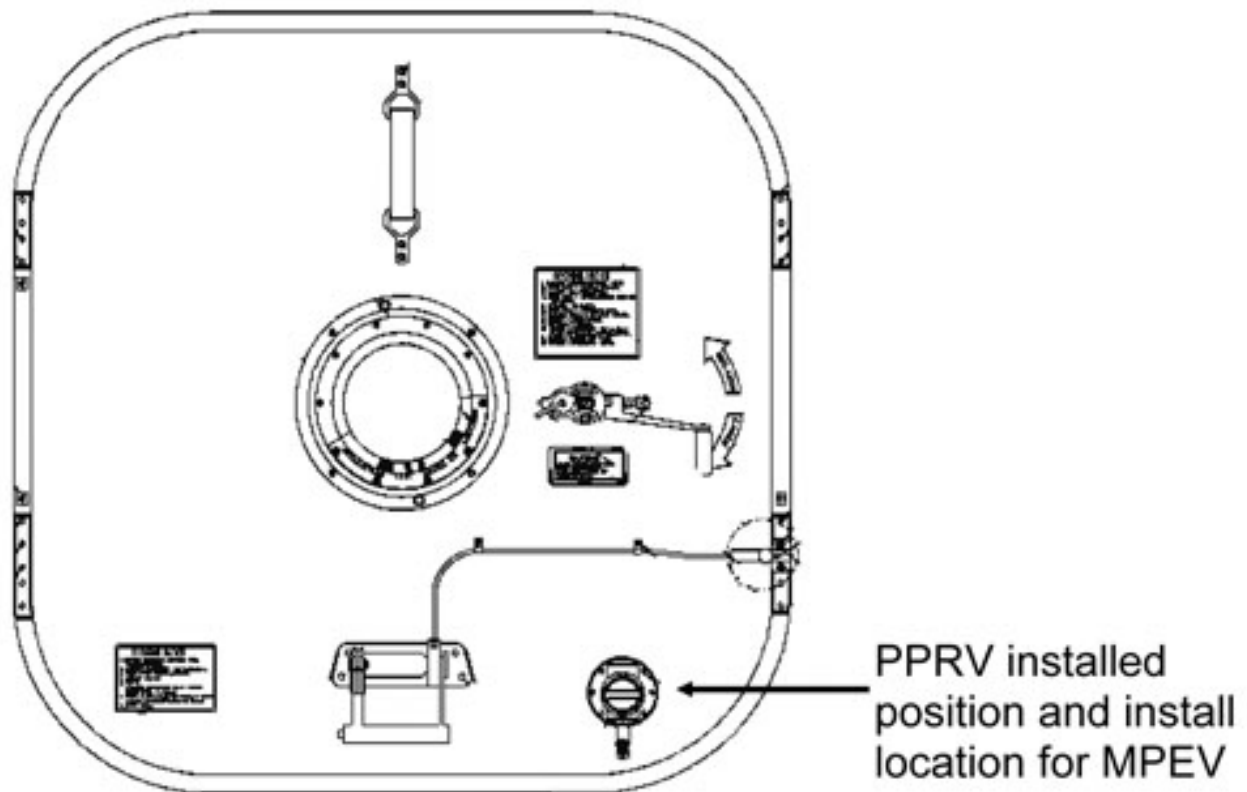

Figure 1. Hatch (dome side).
Refer to Figure 1.
Equalization valve must be oriented correctly. Refer to Figure 1 for proper installation orientation (nozzle toward bottom).
- 3.3 Apply a small amount of Braycote to MPEV seals and position MPEV in proper installation orientation (Latex gloves, Braycote Lubricant). Refer to Figures 1, 4.